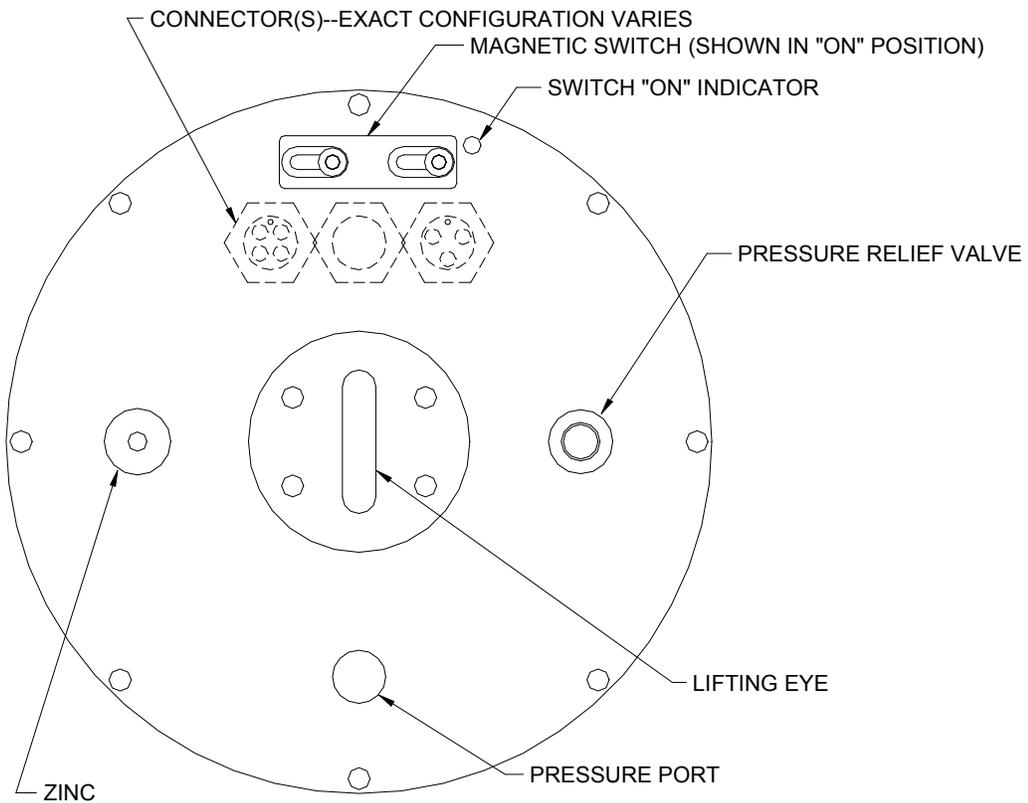

Figure 3 HydroScat-6 Rear End Cap
If your HydroScat-6 is equipped with an oil-filled pressure reservoir and capillary tube, the reservoir may require occasional refilling. This is part of routine maintenance performed at HOBI Labs. In older HydroScat-6's without oil reservoirs, the pressure transducer is located under a black plastic cap, flush with the rear end cap, with four small drain holes (see Figure 3 on page 4) Rinse the sensor with fresh water by gently spraying it into the drain holes.
- 25) To start a cast when the HydroScat is asleep and disconnected from the computer, move the magnetic switch to the on position (see Figure 3 on page 4).